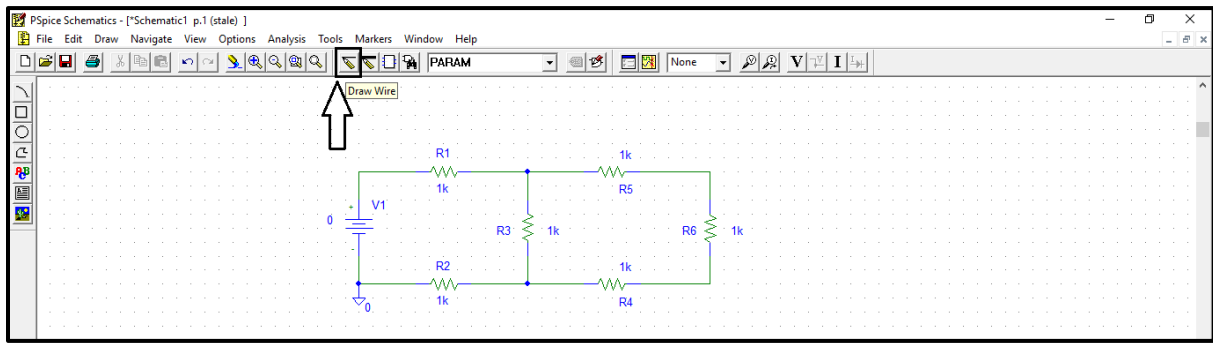

Figure.7
- To connect the components, click on “draw wire” icon shown in figure.7, a **common mistake** that students do is clicking on “draw bus” icon which is next to “draw wire”. Avoid doing this mistake! also avoid drawing wire over components (shorting parts). Click where you want each vertex of the wire. Each click ends a wire segment and starts a new one